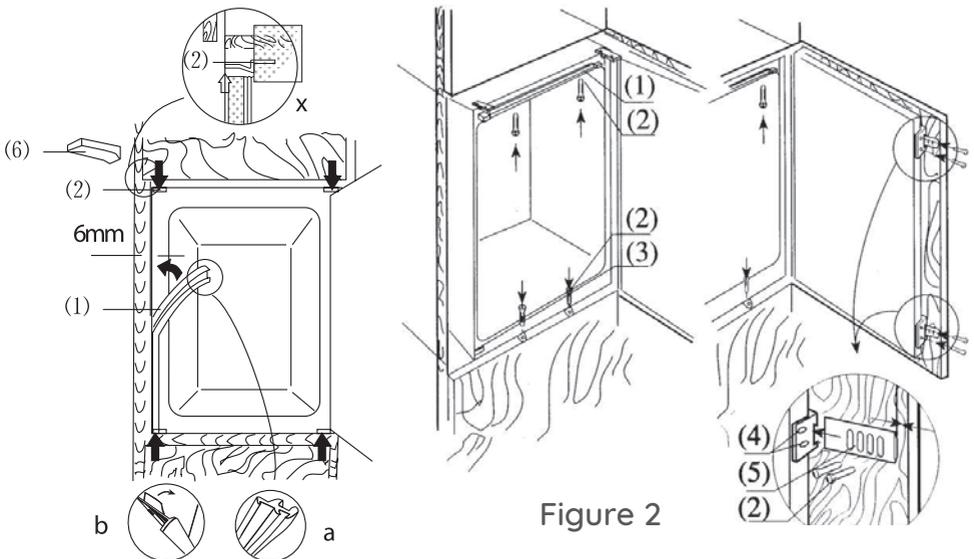

Figure 2
• Installation (Figure 2)
2. Pass the power cable through the cabinet so that it can be connected to the outlet after installing the appliance. Remove the cover (6) only if there is no space.
3. Fix the mounts (1) using screws (2) on the chassis at the top after having pushed the refrigerator into the niche two-thirds. Then push the refrigerator all the way in while checking that the clamp of the mounts fits into the horizontal frame of the furniture.